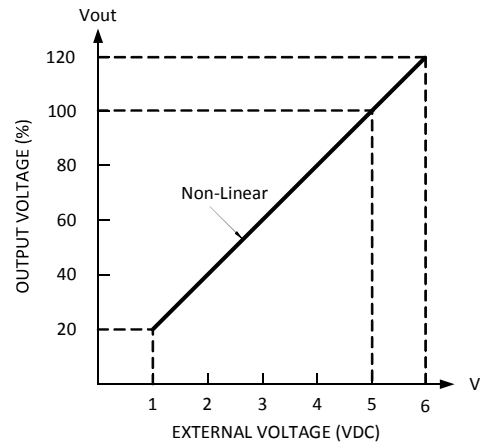

Fig 3.2
- (d)Trimming of output voltage is allowed between 20~120%(Typ.) of the rated output voltage as is shown in Fig 3.2.